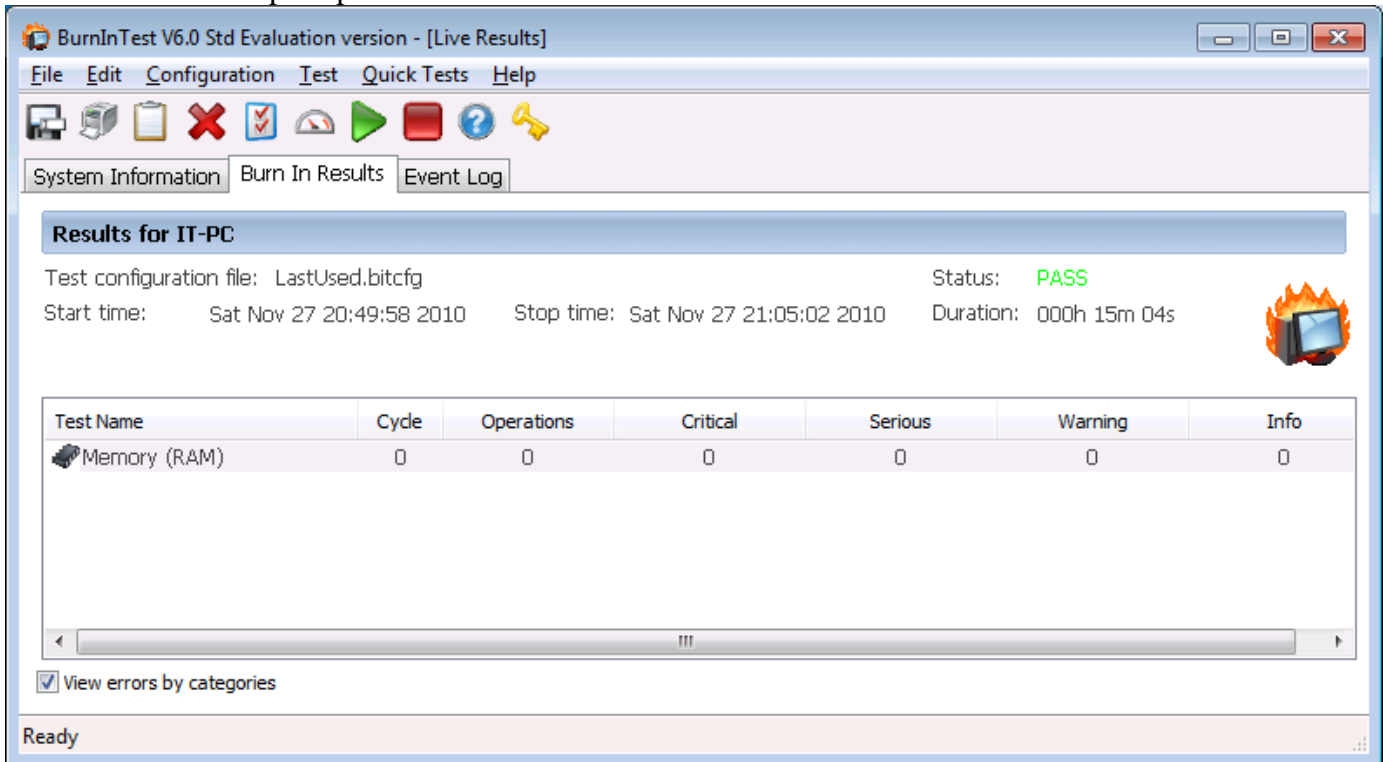

Figure 5.10
5. Click [OK]. The Test selection & duty cycles window (Fig.5.10), with “Burn In Results” tab will be prompted.